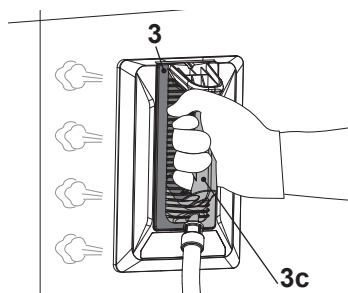

Fig. 10
4. The product is ready when the water is boiling and steam escapes from the steam plate (3). Hold the steam plate by its handle (3c) and apply to the work area (Fig. 10).
5. After 10 seconds, move the steam plate (3) to the area next to the one you steamed. Use the supplied scraper (7) to lift / remove the piece of wallpaper you steamed.